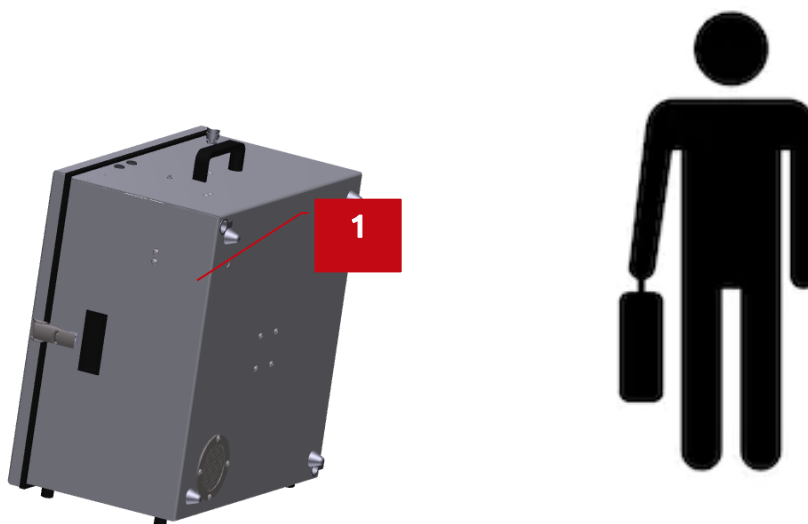

Figure 11. *Transporting the sampler*
4. Lift the sampler using the transport handle (1). See the figure 11